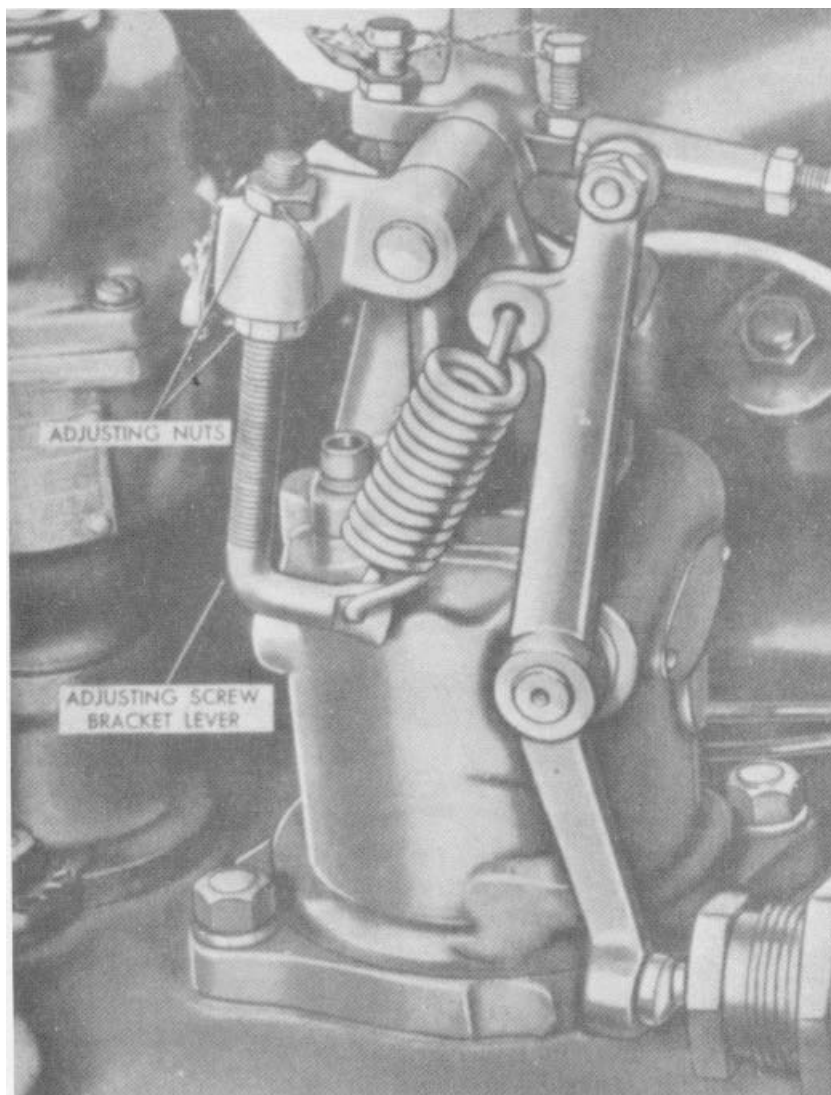

Figure 48. Governor adjustment.
c. *Adjustment* (fig. 48). If the governor has been removed from the engine or if incorrect adjustments are indicated by the engine performance, complete checking of governor operation is necessary.
- (1) Start and warm up the engine until operation temperatures are reached.
- (2) Run the engine with no load, then suddenly apply full load, by opening air receiver service valve, and note the governor action. After one or possibly two surges, the engine speed should become steady.